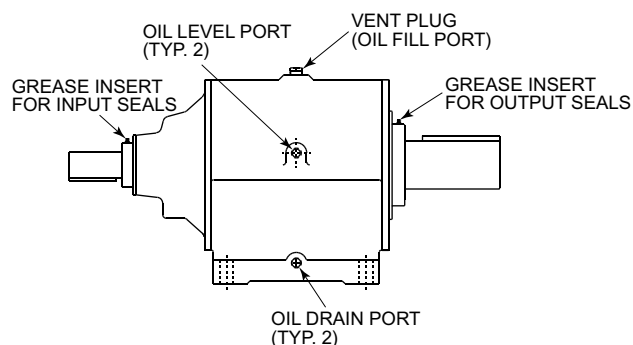

Figure 5.1 Reducer Oil Ports, Vent Plug and Grease Insert Locations
3. Remove oil fill plug (vent plug) and one of the two oil level plugs; reference **Figure 5.1**.
2. Remove oil fill plug (vent plug) for ventilation (reference **Figure 5.1**).
1. Clean grease inserts, reference **Figure 5.1** for location.